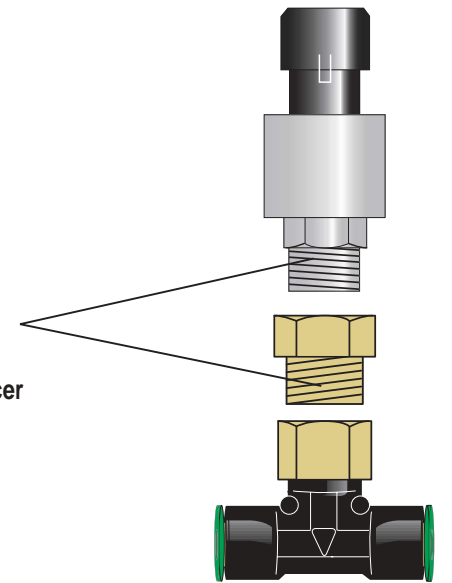

Figure 8
1. Apply thread sealant to the bushing and install into the branch tee (Figure 8).
2. Apply thread sealant to the transducer and install into the bushing (Figure 8).